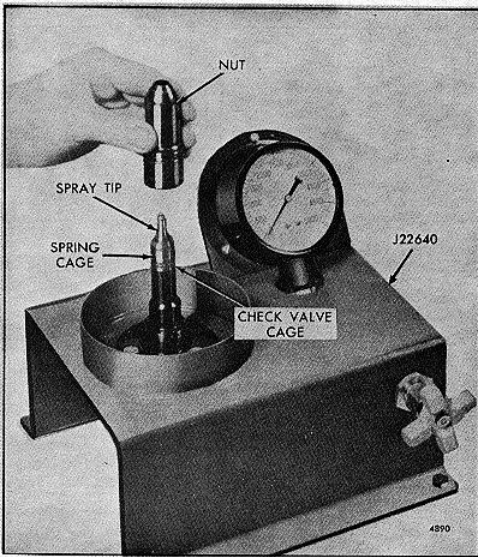

FIG. 18 - Installing Injector Valve Parts on Auxiliary Tester J 22640
2. Assemble cleaned injector parts, including the check valve cage, spring, spring seat, spring cage and spray tip assembly, on the auxiliary tester J 22640 (Fig. 18).